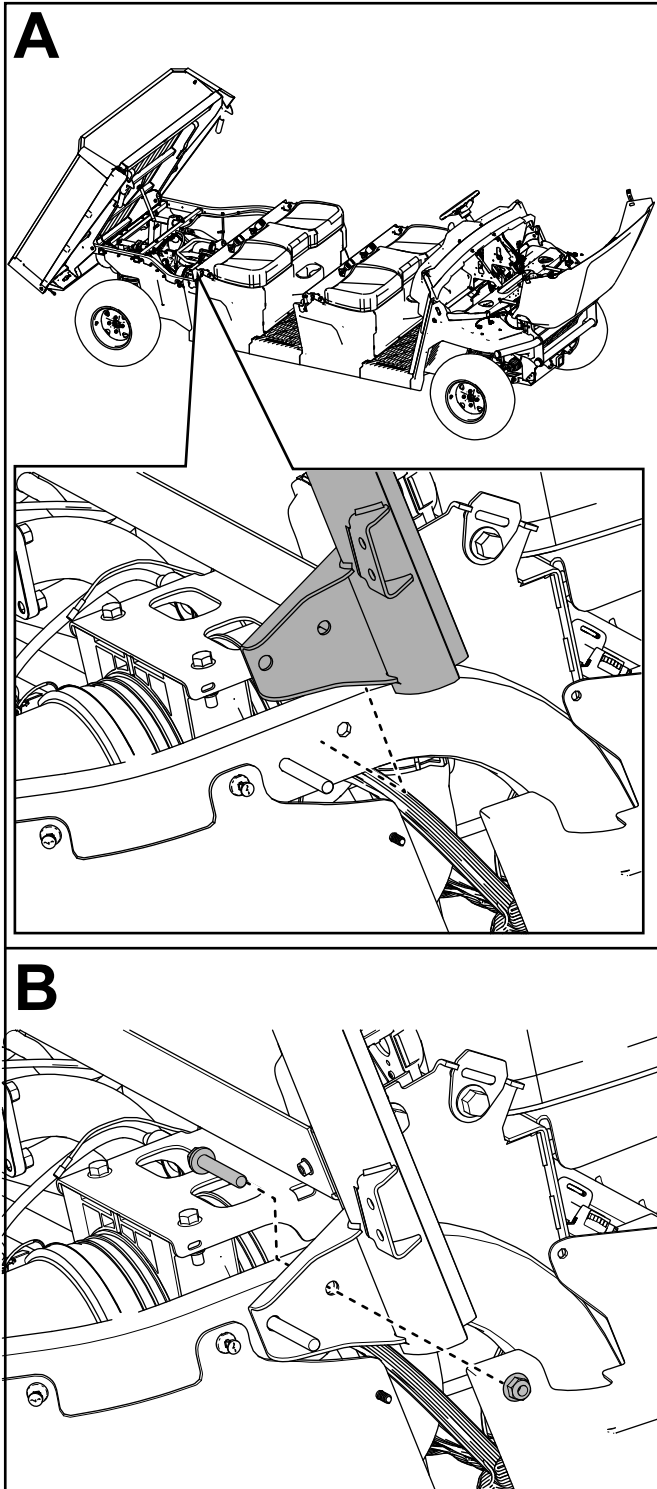

**Figure 35**
5. Remove the locknut (3/8 inch) and latch pin from the right and left, rear frame tubes (Figure 35).